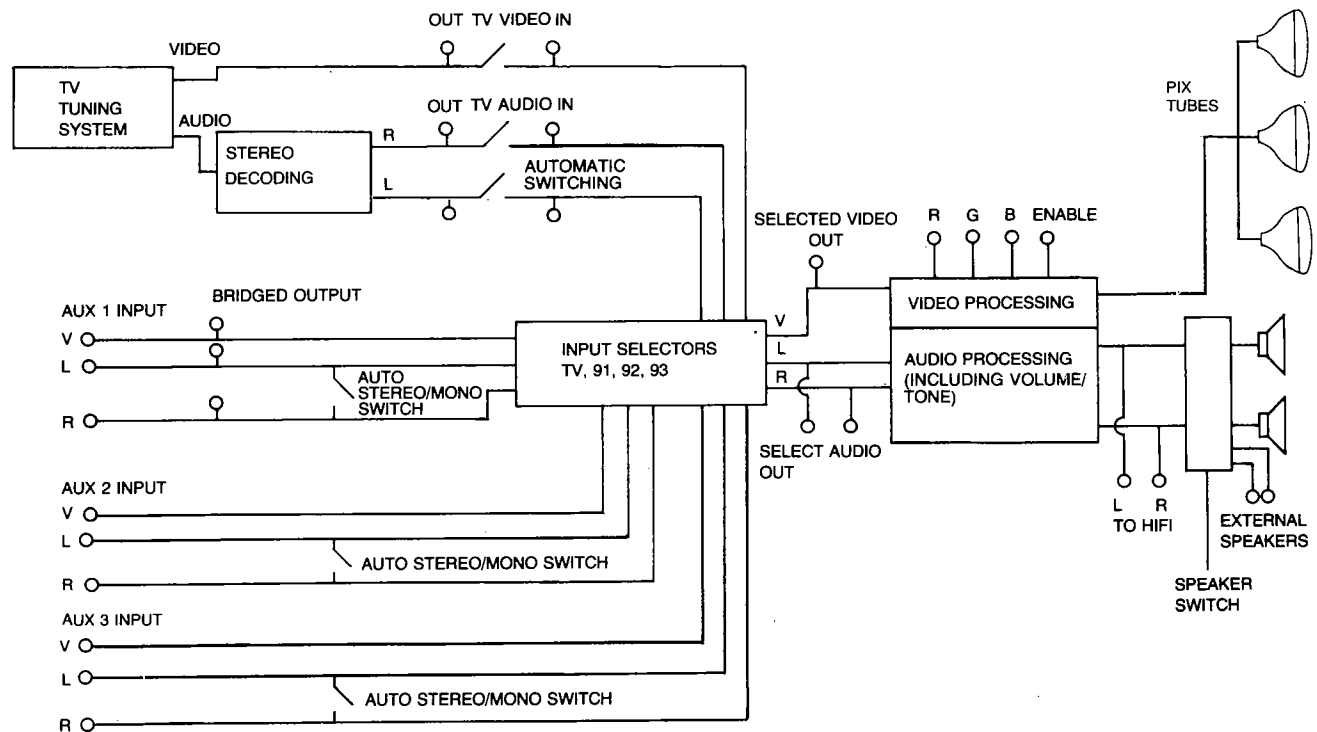

Fig. 3 — Basic Circuit and Signal Flow
- (1) Apply AC power to receiver and tune to an active channel.
- (2) Place TEST PATTERN switch in "ON" position.
- (3) Remove 2 Phillips (+) head screws and locking plates, 1 in each bottom mirror assembly mounting bracket and loosen 4 (9/32") hex-head nuts, 1 on each secondary mirror assembly mounting bracket (See Fig. 3).
- (4) Adjust mirror angle to center picture on screen vertically.
- (5) Tighten nuts on brackets and replace Phillips (+) head screws and locking plates.